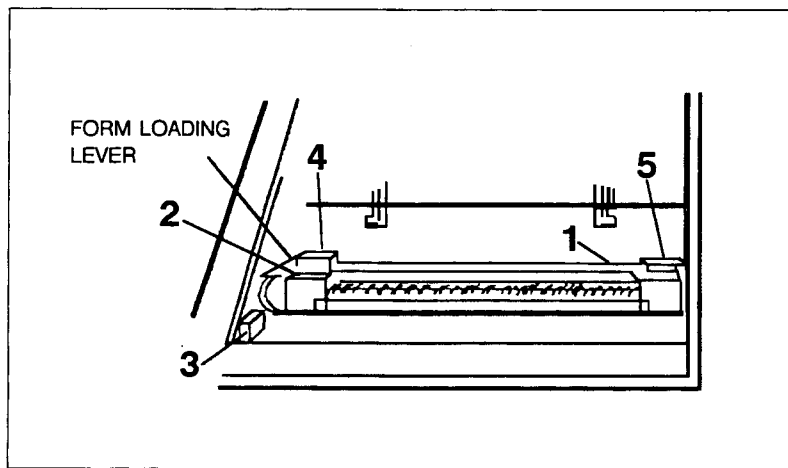

Figure 2-22. Removing the Foam Packing Blocks
- f. Remove the five foam packing blocks in the order shown in Figure 2-22 Block #1 and #2 are removed by grasping toward the rear and pulling up and out. When block #3, located under the forms loading lever is removed, the last two blocks, located behind the print mechanism will be freed.